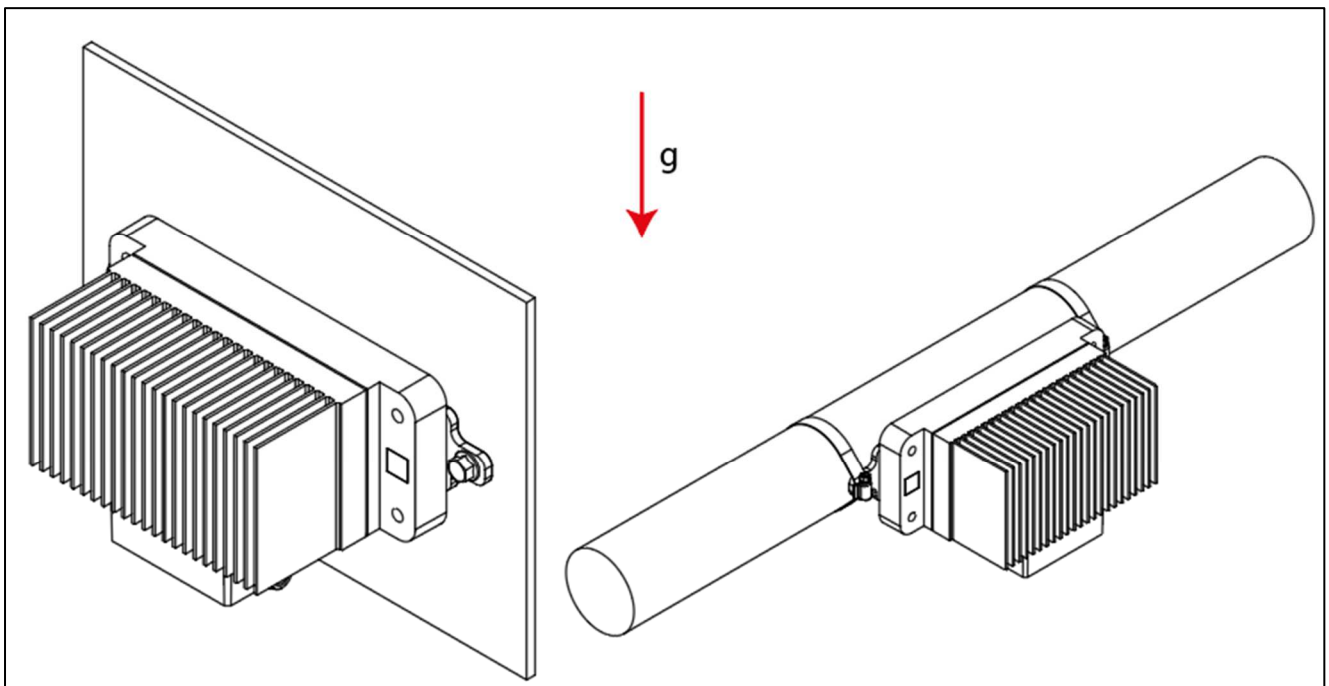

Figure 4.- InduEye® TG Duo module mounting options with vertically positioned heat sink fins
- Performance can also be improved by installing the module with the heatsink fins in a vertical position as shown in Figure 4.